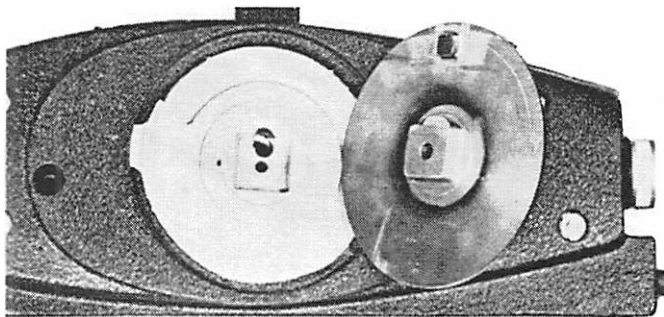

Figure 1. Removing Cover Plate
1. Remove screw from side of control opposite control handle and remove round cover plate. (Figure 1)